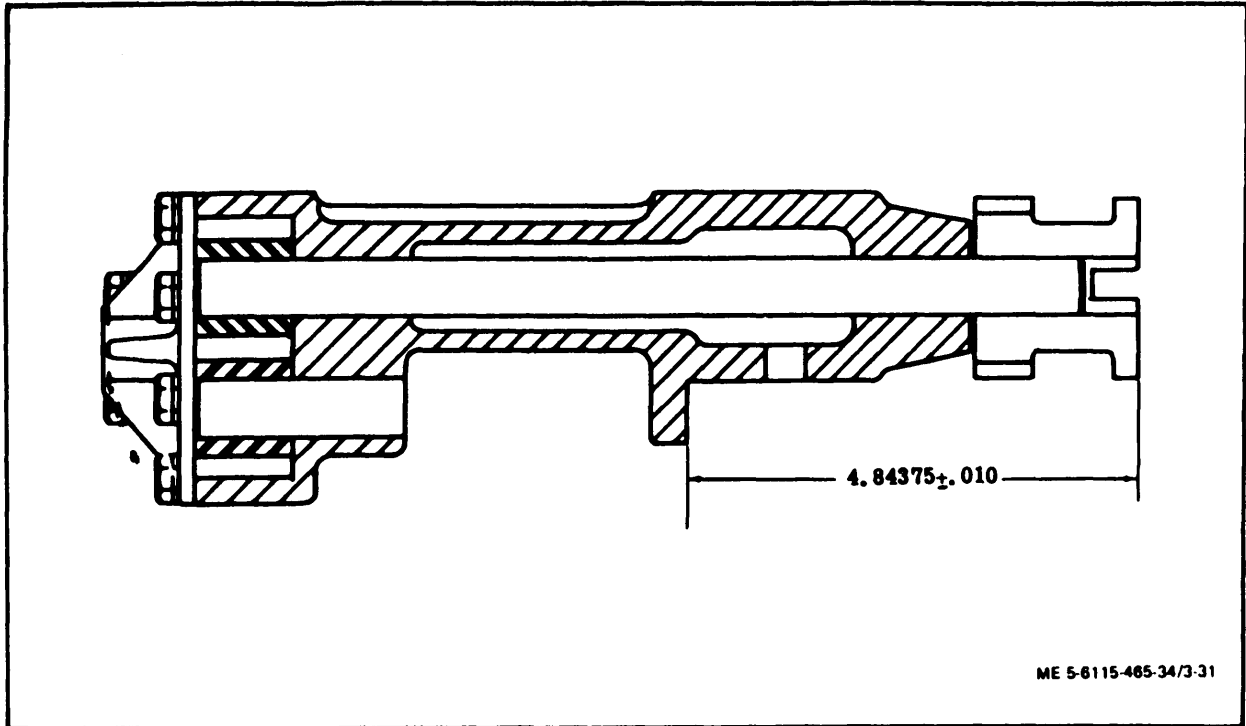

Figure 3-31. Oil Pump Assembly Dimension
(2) Insert shaft into pump body (22) and press gear (12) onto shaft until a dimension of  $4.84375 \pm 0.010$  inches is obtained between the mounting flange and the top of the drive flange (figure 3-31).